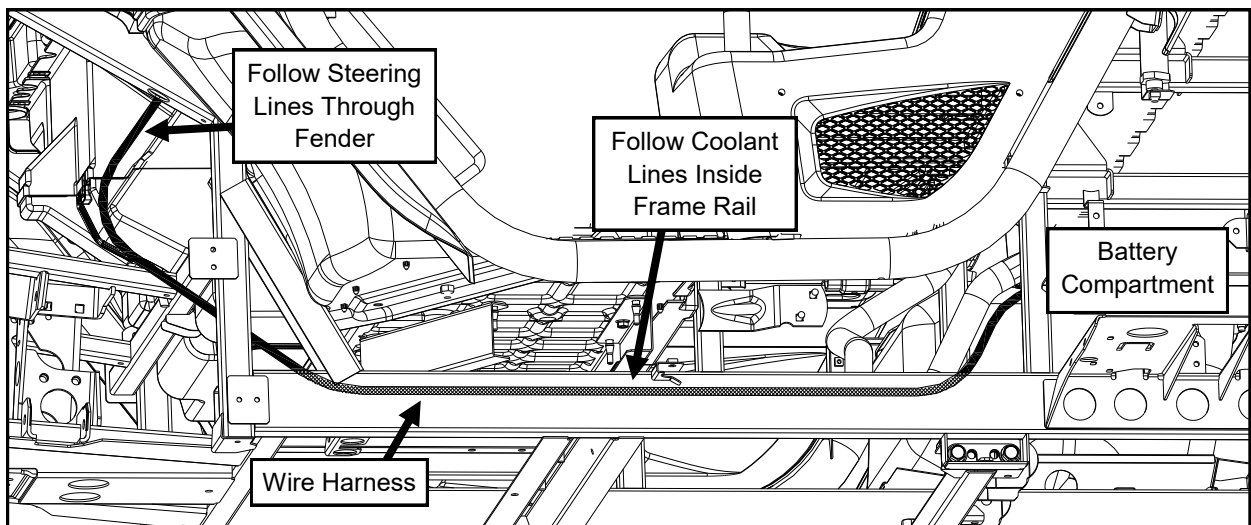

Fig. 1
1. Per figure 1 (RTV X900 shown), route the long portion of the harness with the male push-on connectors forward from the battery area. The harness should follow the coolant lines forward above the skid pan and lie just inside the main frame rail. Route the wires upward into the hood area along the same route the power steering lines enter into the hood area. Once the wires are in the hood area, route over towards the driver's side, making sure that they cannot interfere with the emergency brake operation.